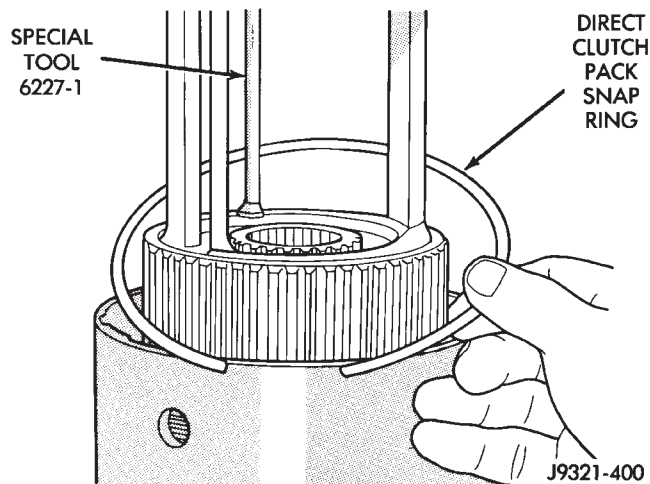

Fig. 235 Direct Clutch Pack Snap Ring Installation
(20) Position Compressor Tool 6227-1 on clutch hub.
(21) Compress clutch hub and spring just enough to place tension on hub and hold it in place.
(22) Slowly compress clutch hub and spring. Compress spring and hub only enough to expose ring grooves for clutch pack snap ring and clutch hub retaining ring.
(23) Realign clutch pack on hub and seat clutch discs and plates in clutch drum.
(24) Install direct clutch pack snap ring (Fig. 235). **Be very sure snap ring is fully seated in clutch drum ring groove.**